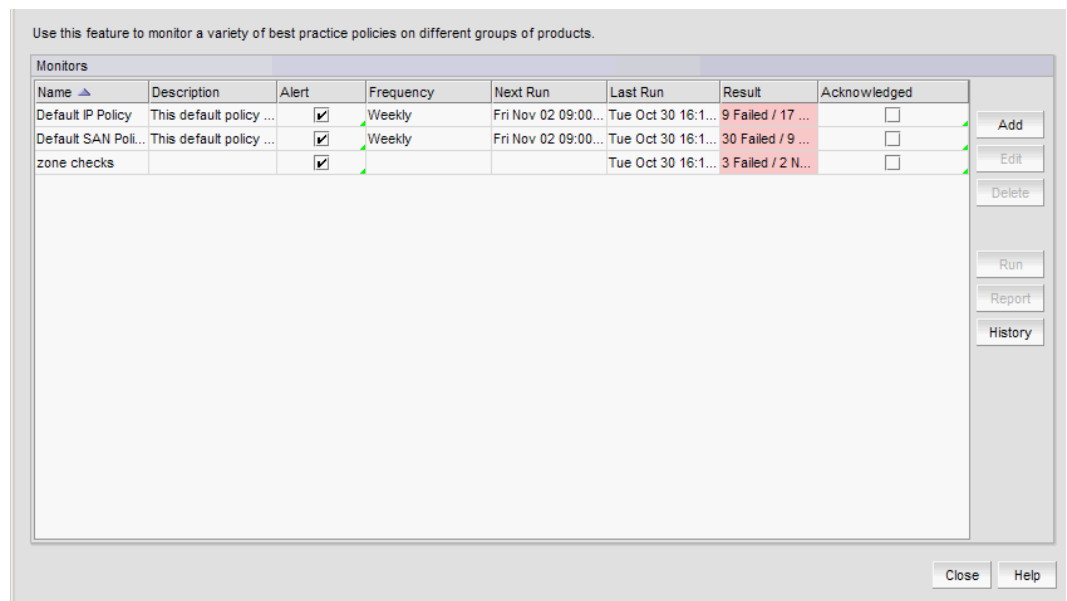

FIGURE 437 Policy Monitor dialog box
1. Select **Monitor > Policy Monitor** (Figure 437).